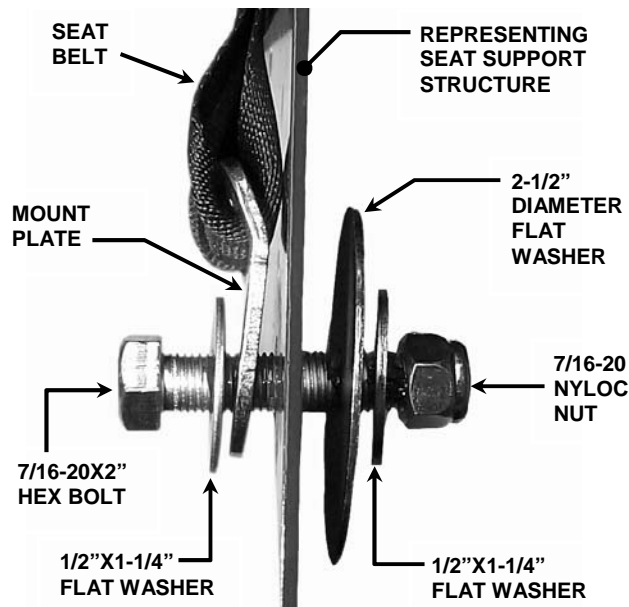

FIGURE 1.3
IMPORTANT! The large 2 1/2" diameter flat washers must be installed on the inside surface of the seat support structure. See Figure 1.3.
3. Place (1) 1/2" x 1 1/4" diameter flat washer on (1) 7/16-20 x 2" bolt. Insert bolt with washer into seat belt mounting plate. See Figure 1.3.
5. Place (1) 1/2" x 1 1/4" flat washer on bolt. Install (1) 7/16-20 top lock nut.